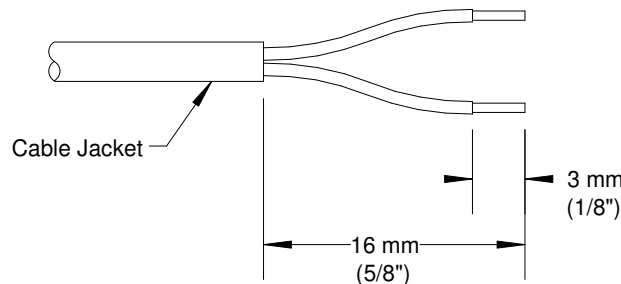

Figure 7 Prepare the Sensor Cable
1. Prepare the sensor cable as illustrated in Figure 7. Strip back the cable jacket to expose a 16 mm (5/8") length of lead wires. Strip the wire insulation to expose 3 mm (1/8") of wire.